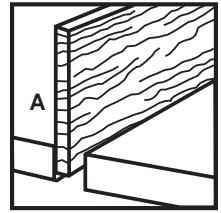

Figure 22
2. Clamp board A to a workbench or clamping table. See Figure 22.